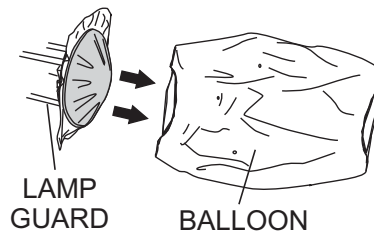

Figure 24. Removing the Balloon
2. Unzip the zipper at the bottom and top of the balloon. Slide the balloon over the top of the lamp guard as shown in Figure 24.